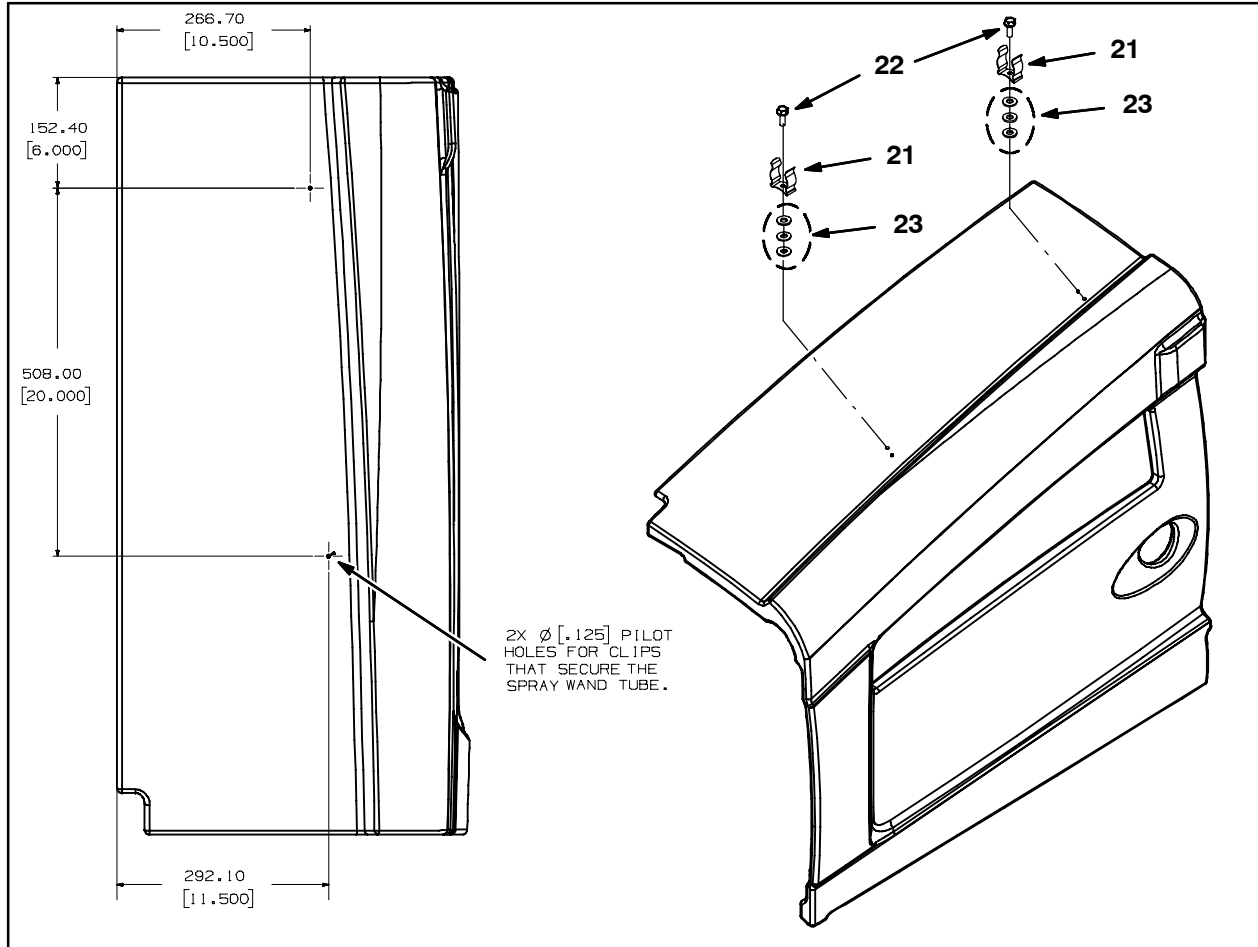

FIG. 10
35. Drill two 1/8" holes into the engine shroud. Refer to Fig. 10 for locations of holes drilled into the shroud.
36. Use a hex screw (22) and three flat washers (23) to install each clip (21) onto the engine shroud. Refer to Fig. 10.